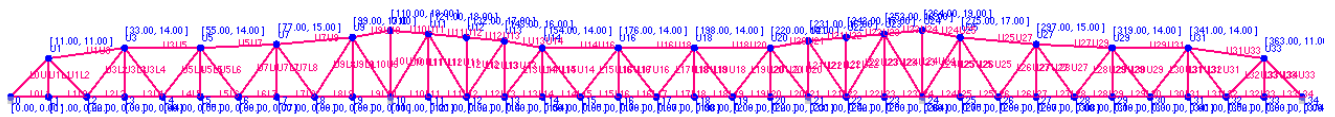

Figure 1
- Figure 1 shows the schematic of the example truss bridge. The span layout is 110 ft, 154 ft and 110 ft. The suspended span length is 88 ft.